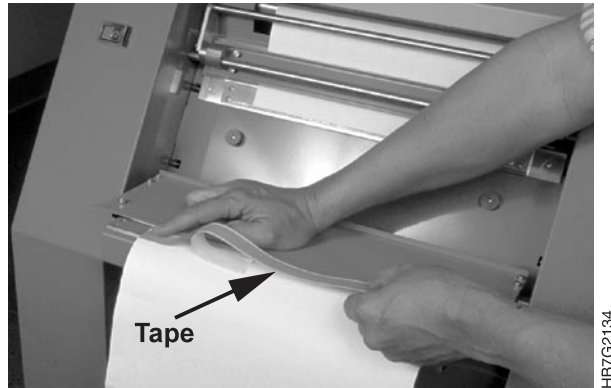

Figure 248. Attaching the Splicing Tape
3. Attach a length of splicing tape to the leading edge of the new roll, as shown in Figure 248, ensuring that the tape is placed about 6 mm (.023 inch) beyond the cutting guide to prevent damage to the drums.